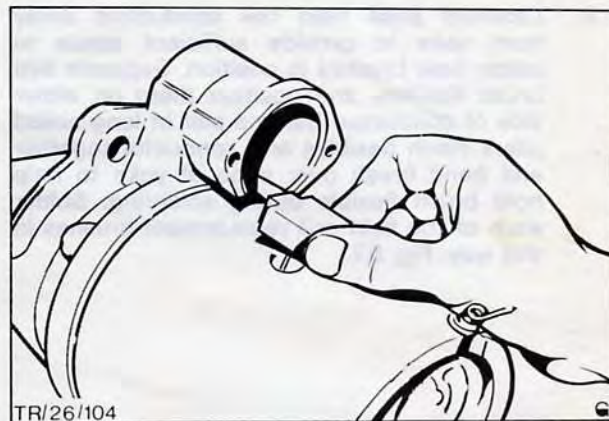

Fig. 60. Removing foam rubber block
5. Remove foam rubber block which is wedged between drive end cover solenoid mount and yoke, Fig. 60.